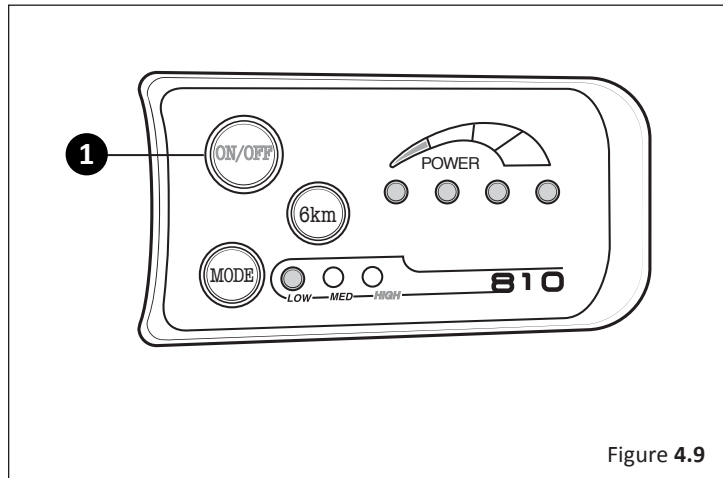

Figure 4.9
- 1 Press and hold the power button for 2 seconds to power on the display. **Figure 4.9**
- 3 Press the power button to power on the computer on. **Figure 4.9**